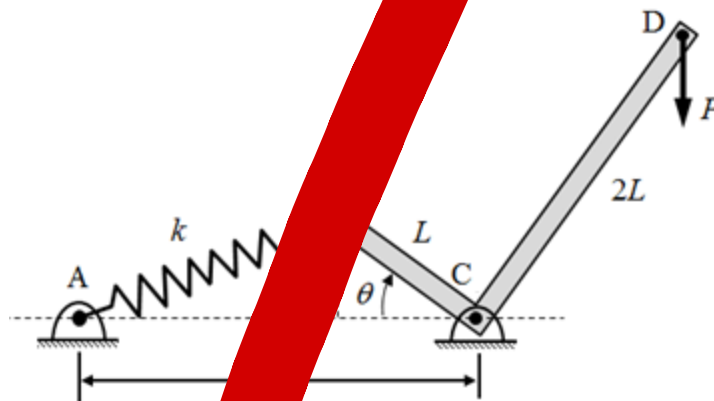

Figure 1.1
- 1 (a) Figure 1.1 shows a rigid weightless bell-crank lever hinged to a support at point C and pin-jointed to a spring of stiffness k at B. The other end of the spring is pin-jointed to another support at A. The spring shows the stretched condition under the action of a vertical downward force P applied at point D. The arms BC and CD are of length L and $2L$, respectively, and are perpendicular to each other. The free (unstrained) length of the spring is L_0 . The distance between supports A and C is $2L$. Assume that there is no friction at the hinge connections. The system is in static equilibrium condition in the configuration shown.